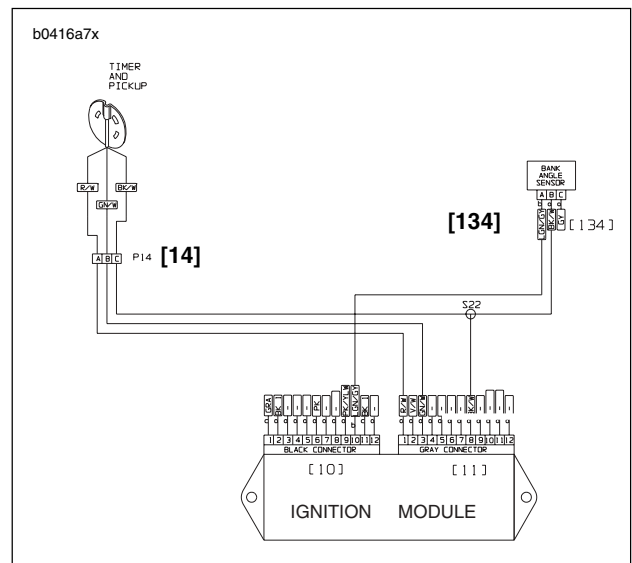

Figure 7-17. Connecting Sensor Wires
5. See Figure 7-17. Install sensor wiring terminals into correct positions in plug end of connector [14]. R/W, GN/W and BK/W wires of plug end (from cam position sensor) must match same color wires in receptacle end of connector (from ignition module wiring harness). Install pin terminals. See B.2 DEUTSCH ELECTRICAL CONNECTORS.